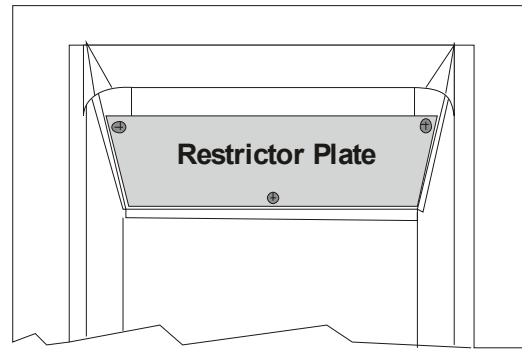

Figure 54
1. If fitting the appliance to a masonry chimney (Class I) fit the restrictor plate using the three screws supplied (see **Figure 54**)